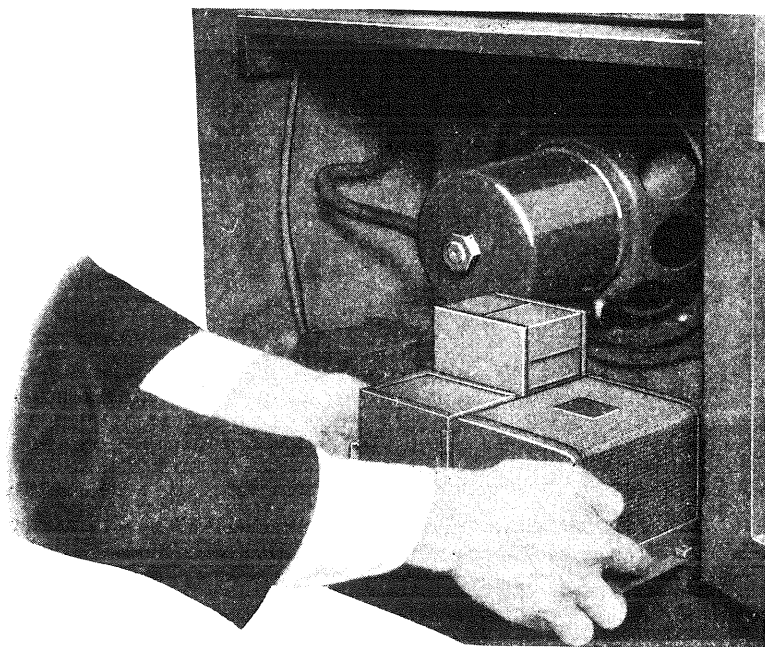

Figure 24—Removing the field supply unit from the cabinet
- (c) Remove the field supply unit to a place convenient for work. See Figure 24.